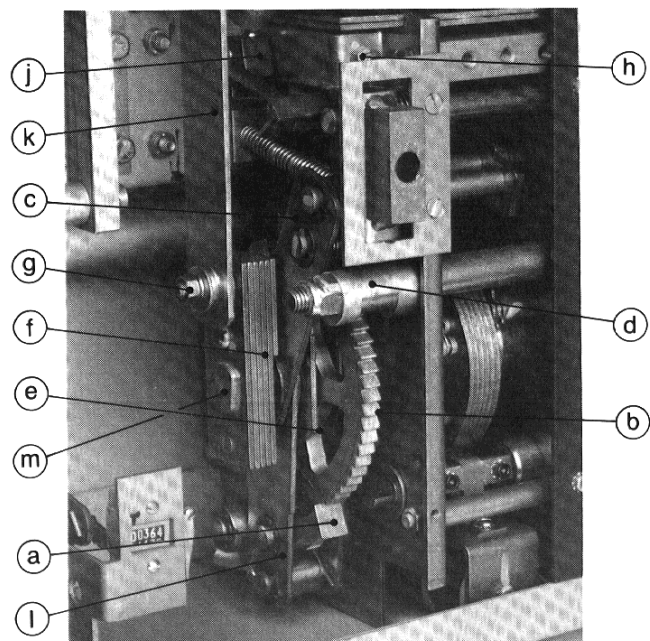
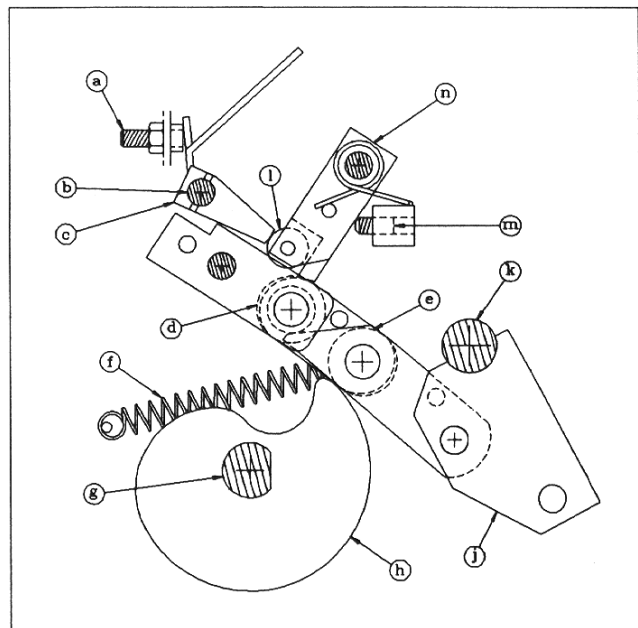

Figure 5. Main Operating Mechanism - Left Oblique View
Figure 10. Mechanism and Trip Linkages
When the motor is energized, the eccentric shaft rotates and causes the driving arm links to pivot about the cam shaft (Figure 5). The drive pawl located on the links engages with the ratchet wheel and rotates it, one tooth at a time. The ratchet wheel is prevented from rotating backward by a holding pawl, which is supported on links which project upward from the cam shaft.
As the ratchet wheel is rotated, projections from its side faces will engage drive plates attached to the cam shaft and the cam shaft will rotate. Attached to the ends of the cam shaft are crank arms and pointing outward from these are crank pins. These engage with the bottom ends of the connecting rods (Figure 5), the top ends of which engage pins projecting from the spring compression plate which straddles the main closing spring. As the cam shaft rotates, the connecting rods pull the spring compression plate downward, compressing the closing spring.
In the linkage positions shown in Figures 8b and 8d, the contact loading springs and the main opening springs are both acting to compress the three (3) main mechanism links (Figure 10).
With the standard electrical control scheme, as soon as the closing springs are discharged on a closing operation, the motor is switched on to recharge the springs. This leaves the main closing cam in a position where the tripped linkage can reset under the action of the reset spring (Figure 10), and the primary and secondary trip props can fall into the reset position. The reset spring stretches between an extension of the main cam roller pin and a spring support pin located on the left mechanism side sheet. The trip latch check switch operated by a lever on the trip shaft will now close (Figure 5).